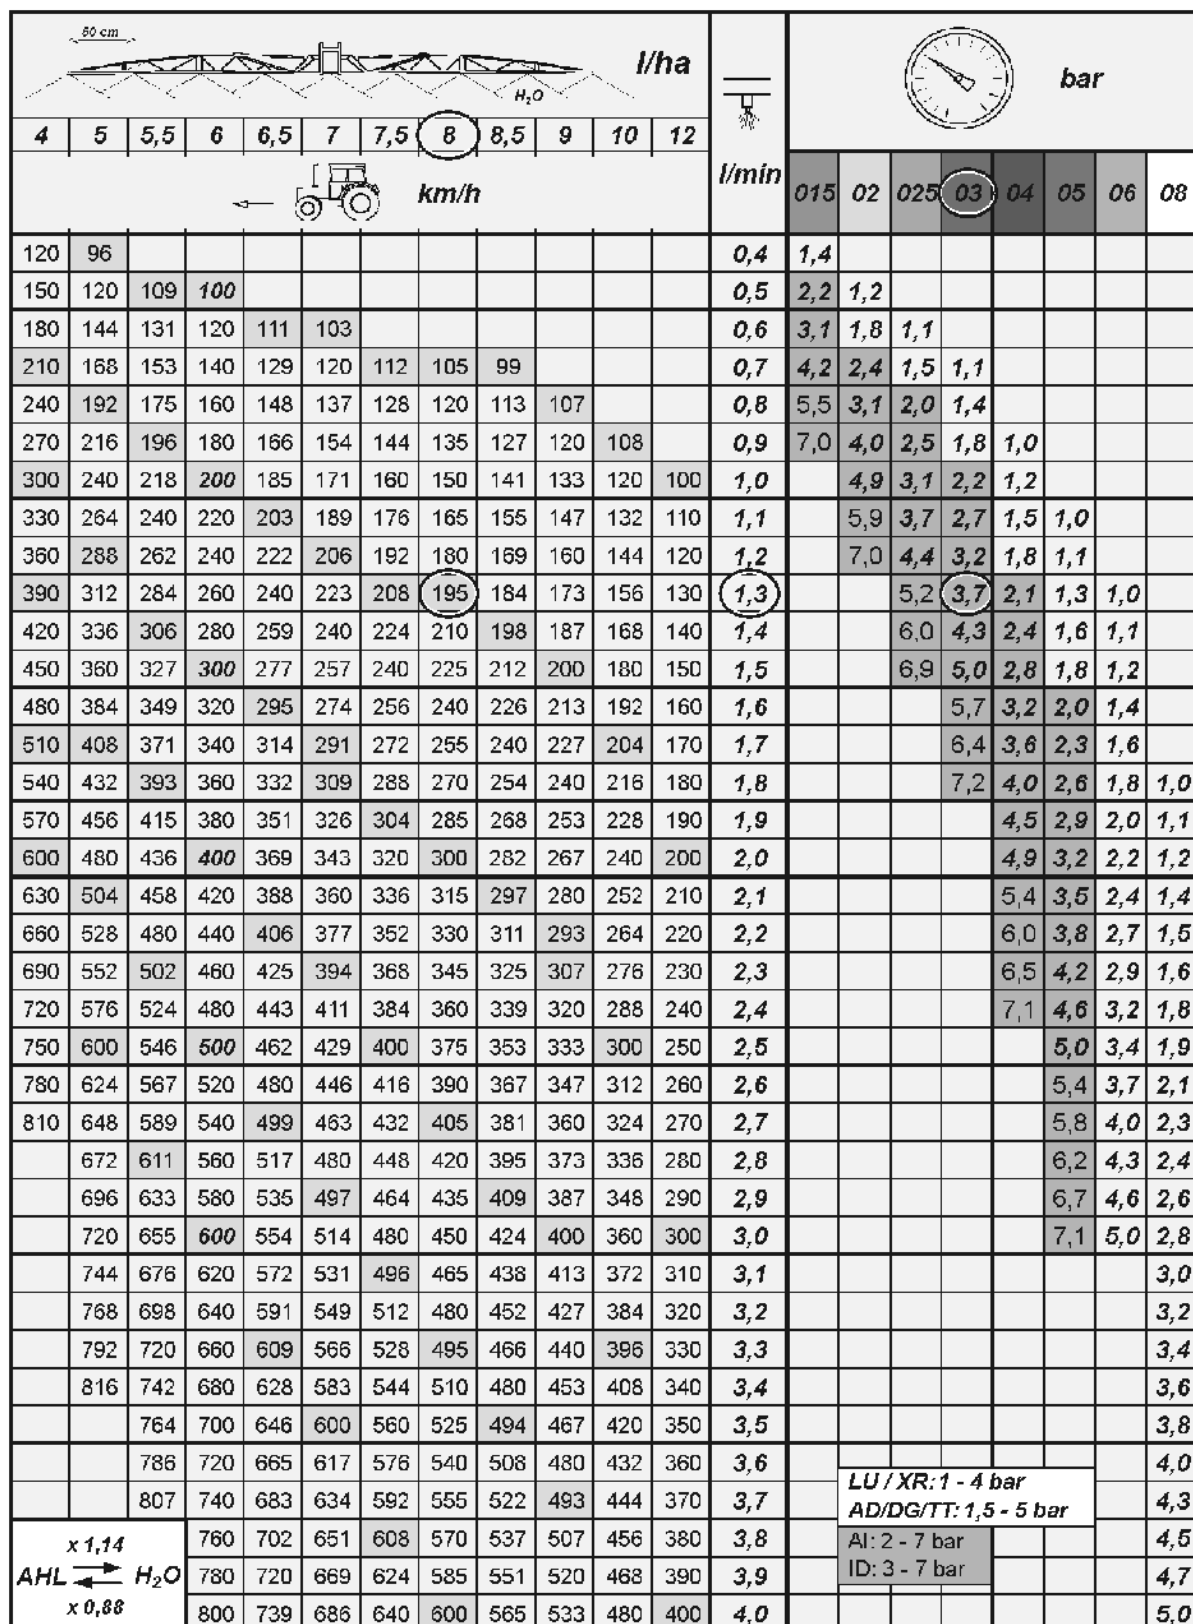

Fig. 156
- Fig. 156 is used to
4. Go over to the spraying table (Fig. 156).